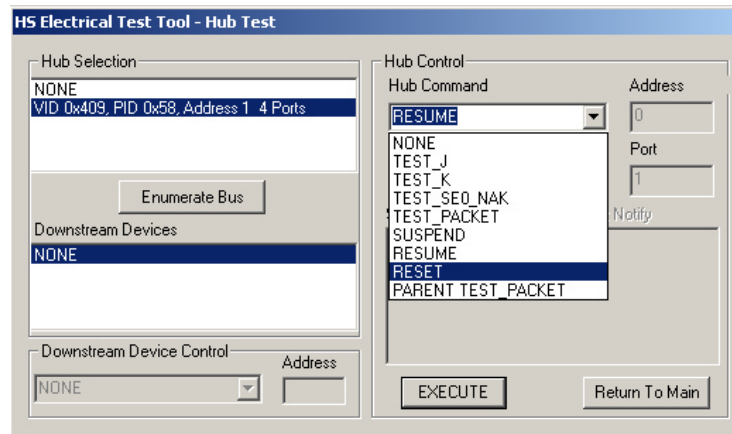

Figure 48. Hub Reset
- a. Click [EXECUTE] once to reset the hub operating in high-speed. (Figure 48)